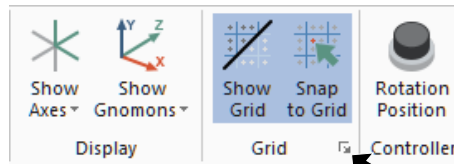

Fig. 7
Step 2. Click the **Dialog Box Launcher**  (Alt-G), **Fig. 7**.